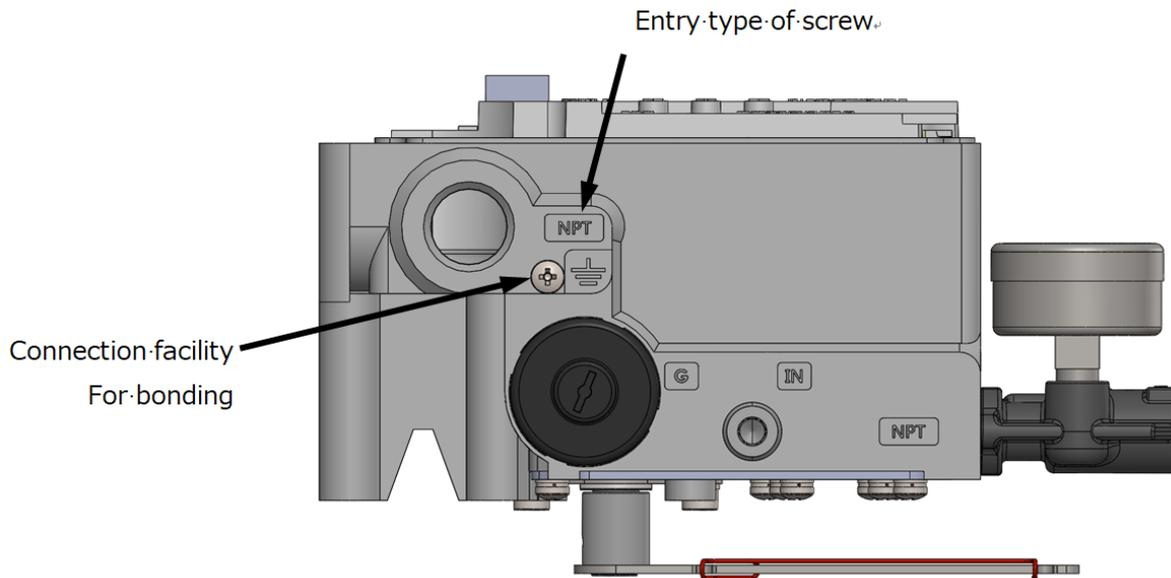

Figure 2.6b Entry type of screw and Connection facilities for bonding
- The width of the connection facilities for a terminal lug is 8.2mm and the fastener for a terminal lug is M4 screw, therefore the dimensions should be $B < 8.2\text{mm}$ and $d2 > 4\text{mm}$ in case of ring terminal as Figure2.6b